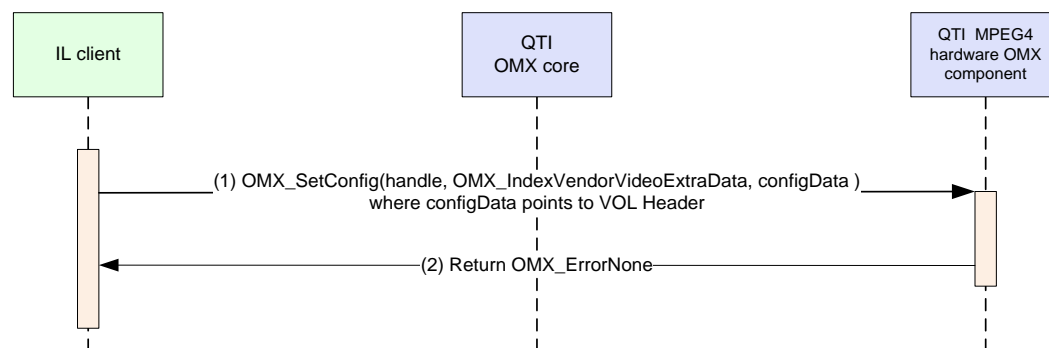

Figure 3-8 Sequence diagram for configuring MPEG-4 decoder with VOL header
The IL client must pass the VOL header using OMX_SetConfig (with OMX_IndexVendorVideoExtraData) before sending input data through OMX_EmptyThisBuffer. See (1) in Figure 3-8.
The component parses the VOL header and uses the information for configuring the video driver. Figure 3-8 shows configuration of the MPEG-4 decoder component using the VOL header.